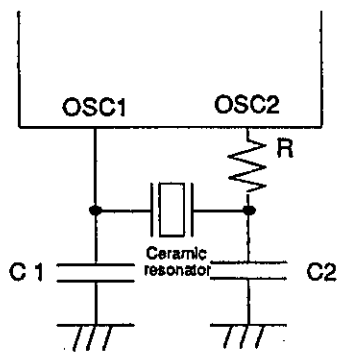

Fig. 2 Ceramic resonator OSC circuit
- (\*1) When oscillated internally under the oscillating conditions in Fig.2, up to the oscillation amplitude generated is allowable.